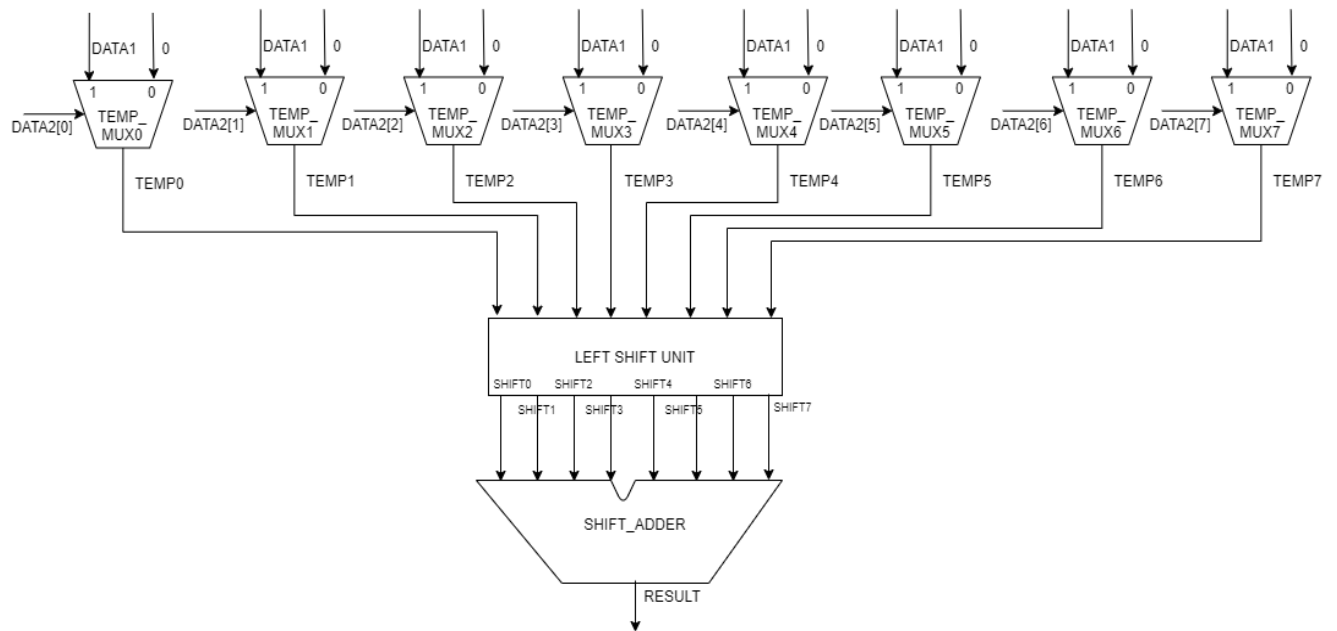

Figure 7: Multiplication module
- The module shown in figure 7 is used to perform the multiplication of DATA1 and DATA2.